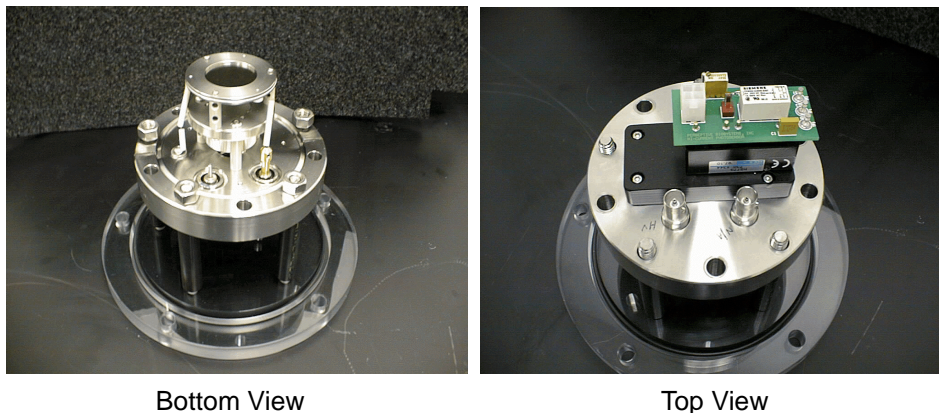

Figure 1-12 High-Current Detector
- Is a hybrid high-current detector (HCD). The HCD (Figure 1-12) consists of a single microchannel plate, a fast scintillator, and a photomultiplier. Earlier instruments (serial numbers 4115, 4114, 4111 and earlier) can be upgraded with HCD.